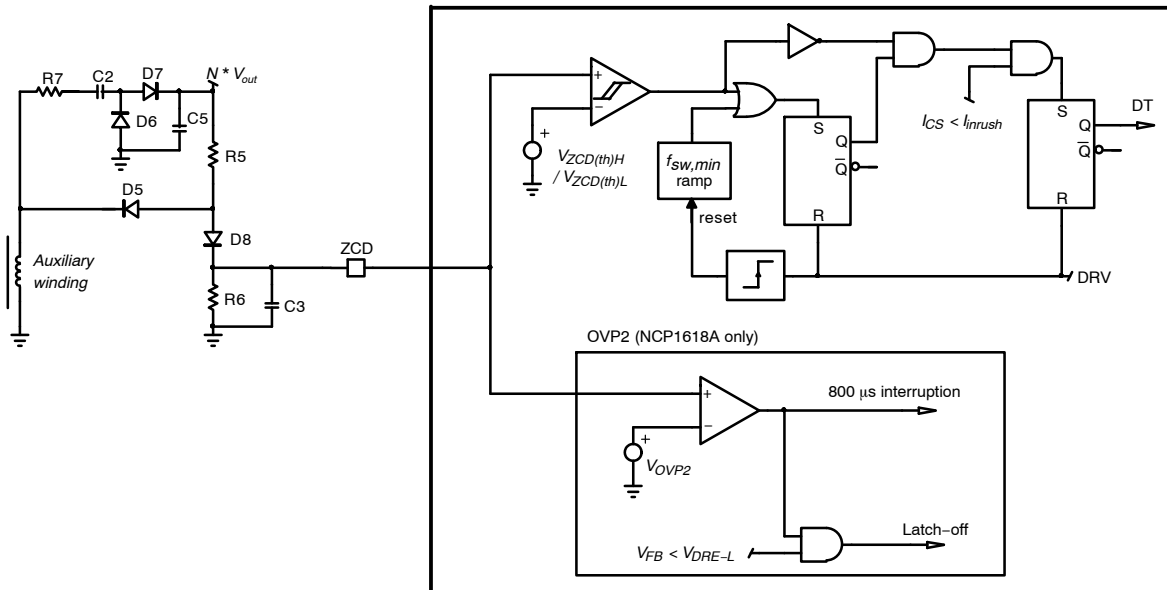

Figure 10. Zero Current Detection Block
- Application note AND90011 discusses recommended circuitries for an accurate ZCD and OVP2 detections. Figure 10 provides one of these circuitries. In this circuit, R_7 being small, capacitor C_2 is charged to
Figure 10 shows how the NCP1618 detects the valley. An internal comparator detects when ZCD pin voltage exceeds an upper threshold V_{ZCDH} (1 V typically). When this is the case, the inductor core is resetting and the ZCD latch is set. This latch will be reset when the next driver pulse occurs. Hence the output of the latch remains high during the whole off-time (demagnetization time + any possible dead time). The output of the comparator is also inverted to form
- The ZCD pin impedance (for instance R_3 of Figure 10), must be higher than $7.5\text{ k}\Omega$ not to trigger the ZCD pin short–to–ground protection.
If no ZCD can be detected when the circuit operates in FCCrM mode, the circuit cannot use the valley detection to start a new current cycle. In this case, the next DRV pulse is forced by the DCM minimum frequency ramp ($f_{sw,min}$ ramp of Figure 10) which acts as a watchdog.
- If the pin is grounded, no falling edge of the auxiliary winding can be detected. The DRV remains off until the DCM minimum frequency ramp initiates a new cycle. Before the new pulse is generated, the circuit senses the pin impedance by sourcing $250\text{ }\mu\text{A}$. No DRV pulses are generated until the pin voltage exceeds V_{ZCDH} . Hence, the part is inhibited when the pin is grounded. Not to trigger this protection, the pin impedance (for instance R_3 of Figure 10, must be higher than $7.5\text{ k}\Omega$).